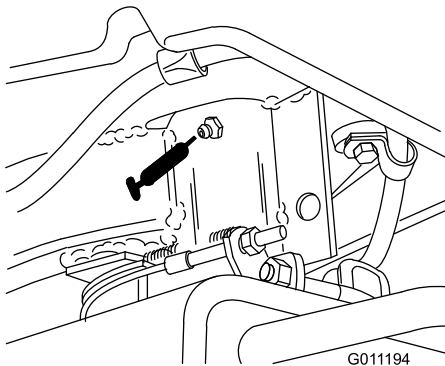

Figure 26
- Steering fork shaft (1) (Figure 26)